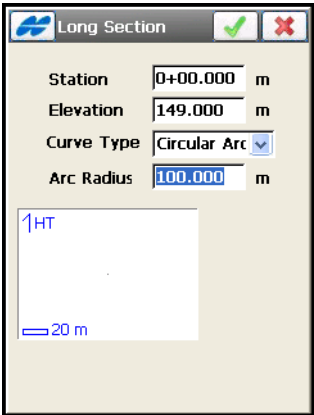

Figure 7-21. Add Long Section
- On the **Long Section** screen (Figure 7-21 on page 7-18), select the type of the curve to add from the *Curve Type* drop-down list, either *Parabola* or *Circular Arc*, and enter the station distance from the beginning of the road, the elevation (height) of the station, and the length of the parabola at the station (with the assumption that the station is located in the middle of the interval), or the radius of the arc, depending on the type of curve selected.